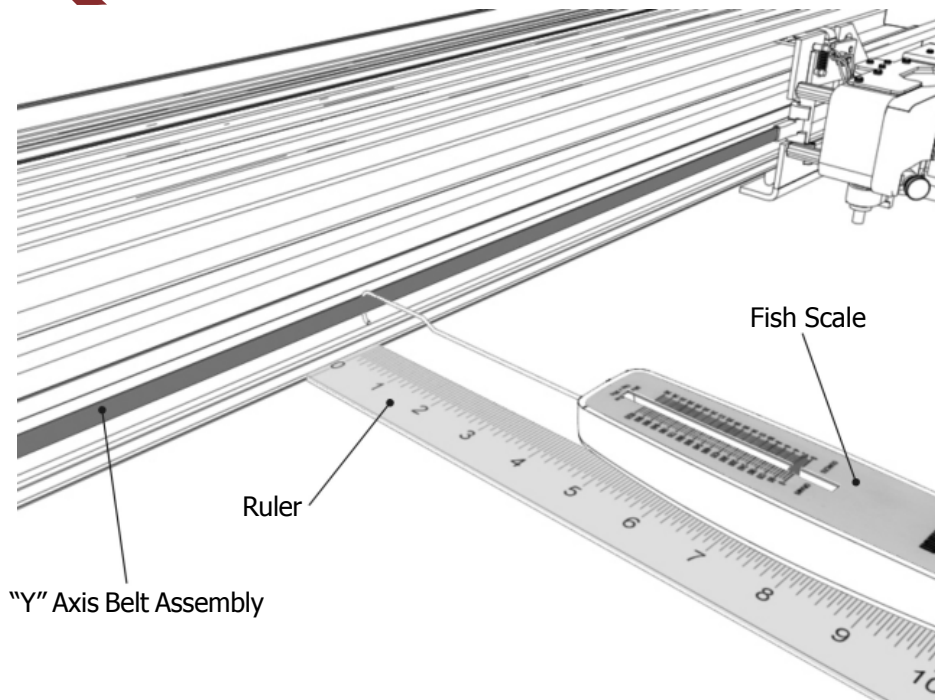

Fig. 5-9 Tensioning the "Y" axis belt assembly
11. To make sure the belt has the proper tension, use a fish scale that measures in Grams. place the hook (on the fish scale) around the belt. See *fig 5-9*.
12. Place a ruler on the bottom of the traverse extrusion, See *fig 5-9*.